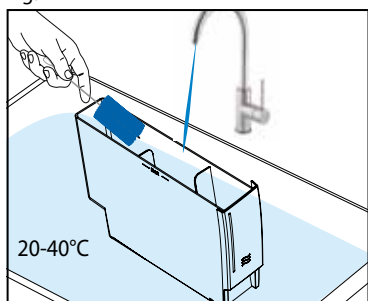

Fig.28
2. Wash the water tank with clean water, 20-40°C / 68-104°F. A food-safe cleaning agent may be used as needed. (See Fig.28)